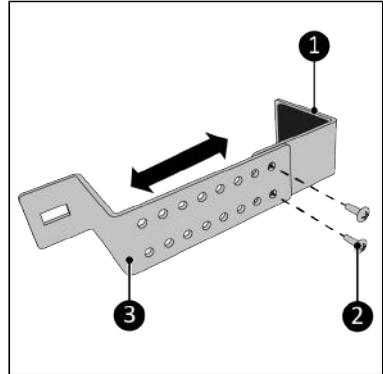

Figure 94.
2. Screw the top part (Figure 94, pos. 1) and the bottom part (Figure 94, pos. 2) together at a wide distance using the two M5 x 7 mm screws (Figure 94, pos. 3). Adjust the distance if necessary.